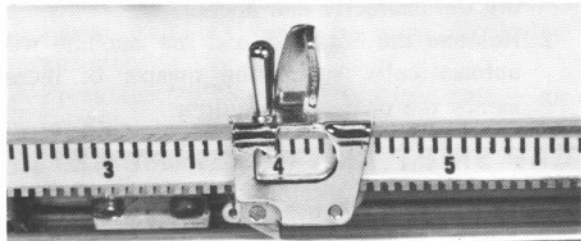
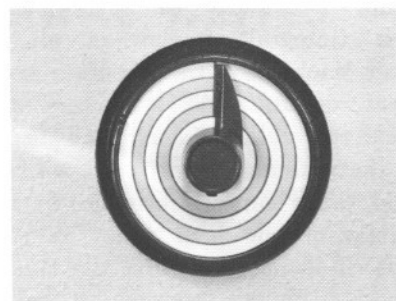

Figure 23
Figure 23a
1. Position the **left margin stop** on the margin scale as shown in Figure 23 (it will not necessarily be at the same position as shown in the picture).
2. Press **automatic carriage return and paper feed key (41)**. Carriage will automatically return to left margin position.
3. Set margin dial (20).
- a. Turn **pointer (20c)** clockwise until it aligns with **vertical line (20a)** of the dial (Figure 23a). The **pointer (20c)** magnifies even the most minute movement of the carriage. It moves with the carriage *clockwise* when keys and space bar are pressed, *counterclockwise* when the carriage is banked or back space keys are pressed.